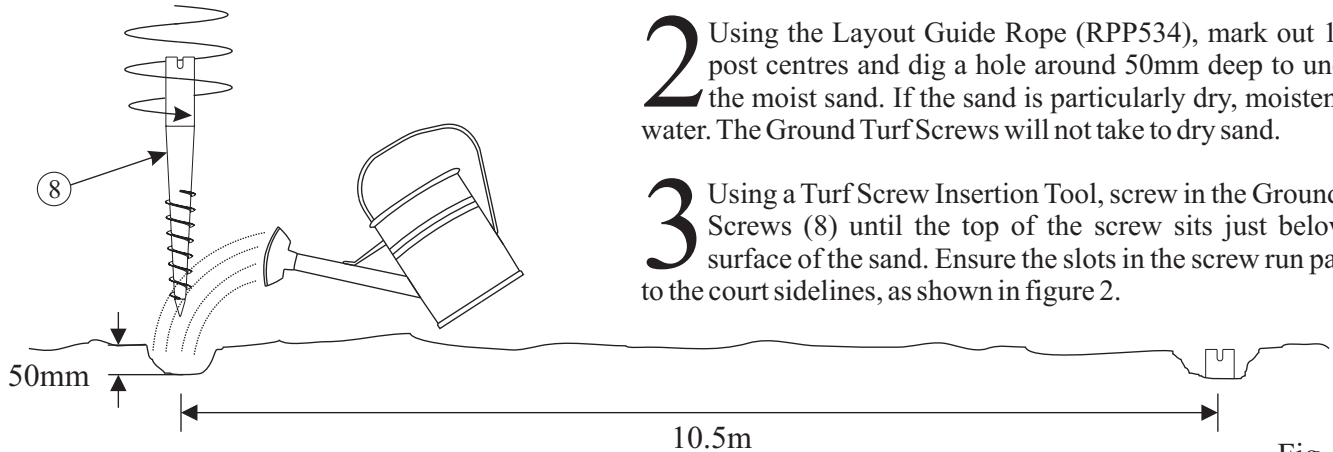

Fig. 2
3 Using a Turf Screw Insertion Tool, screw in the Ground Turf Screws (8) until the top of the screw sits just below the surface of the sand. Ensure the slots in the screw run parallel to the court sidelines, as shown in figure 2.